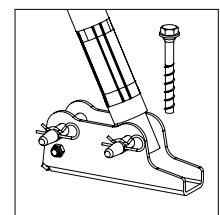

Fig. A5.02b
4. Fix push-pull prop to the base plate with bolts and cotter pins. (Fig. A5.02b)